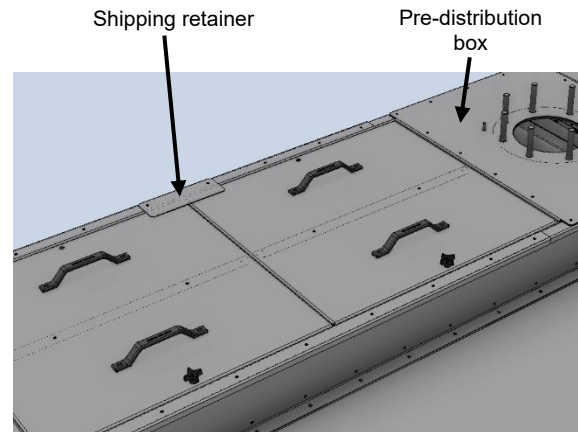

Figure 10. Shipping retainer and pre-distribution box (model FXT-0712C-X shown)
- a. If accessing the hot-water basin for the first time, remove the hot-water basin shipping retainers. Discard the hot-water basin shipping retainers (see **Figure 10**).